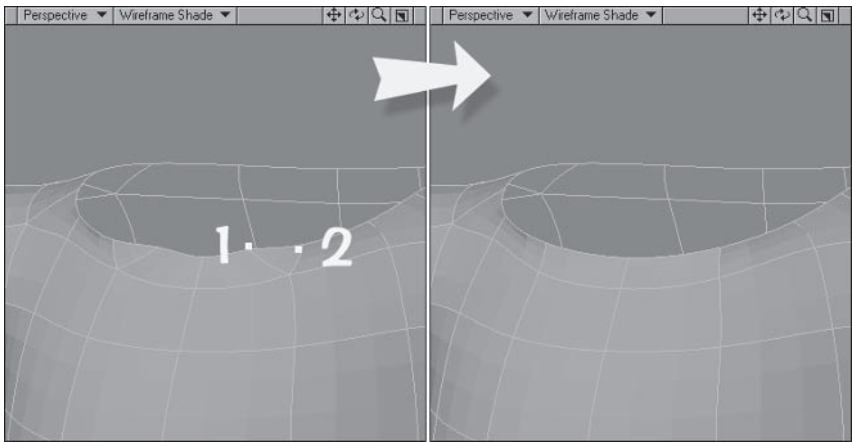

Figure 5.5-29. Now the neck is nice and neat.
8. **Weld** the two points shown in Figure 5.5-29 on each side.